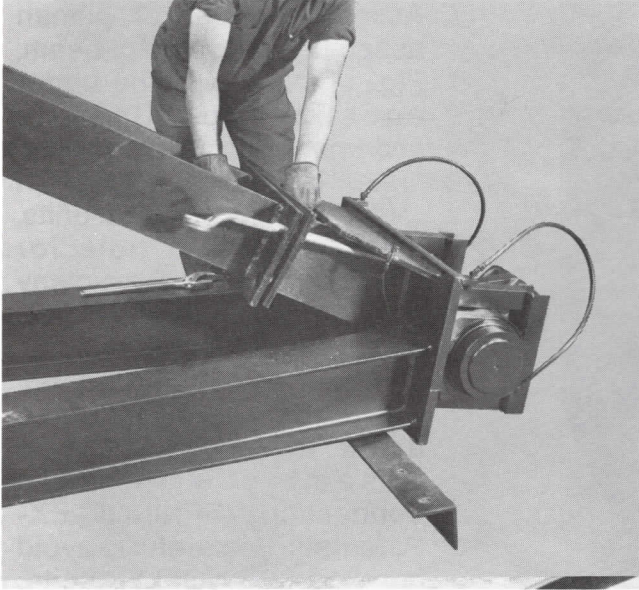

Fig. 8
14. Loosely bolt samson post rear leg to forward section of samson post, Fig. 8.